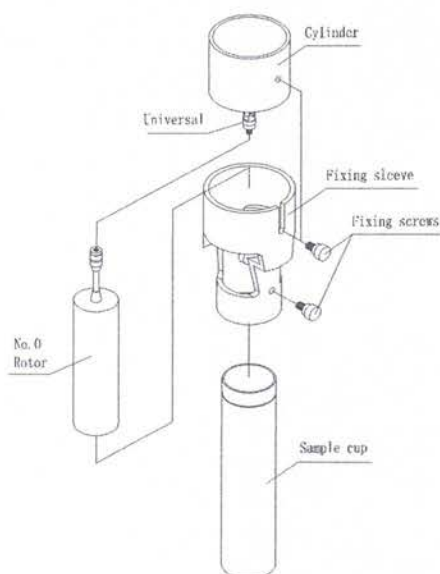

Fig. 6
2) The installation of No. 0 rotor is as shown in Fig. 6. First, rotate No. 0 rotor clockwise on the rotor connecting screw (universal joint).